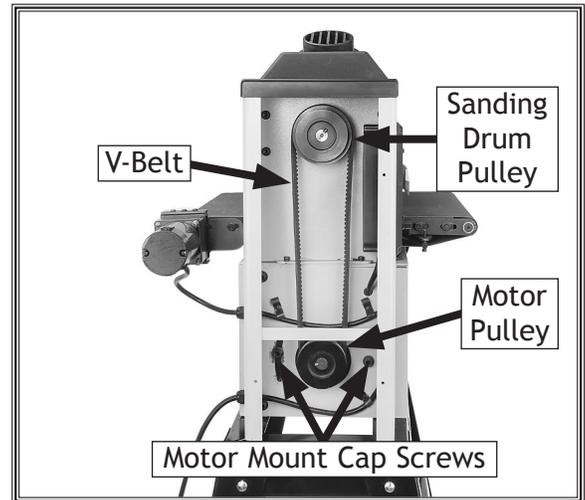

Figure 33. Belt-drive system.
5. Loosen set screws on motor pulley and sanding drum pulley, then align both pulleys (see **Figure 33**).